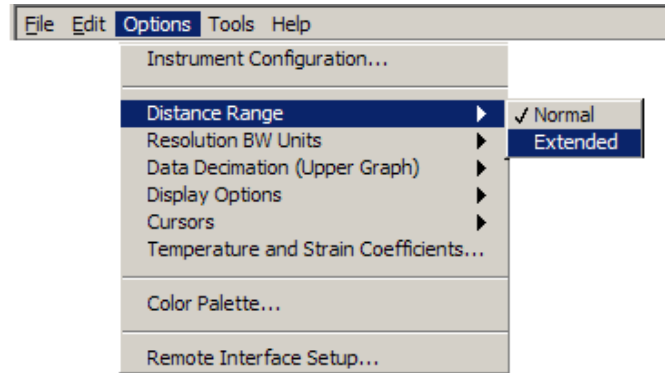

Figure 5: Navigation to normal/extended measurement settings
- d) In order to make measurements of networks longer than 70 m, the instrument will need to be configured to the ‘Extended Range’ mode of operation. To accomplish this, on the tool bar navigate to: ‘Options->Distance Range-> Extended’ (see Figure 5 below).